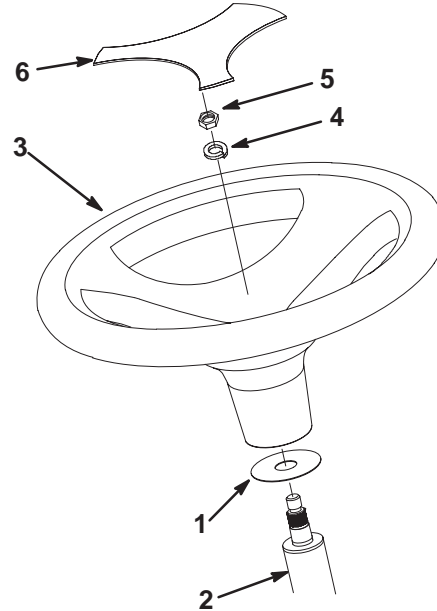

Figure 2
1. Install the boot washer onto the steering shaft (Fig. 2).
2. Remove the plastic trim cover from the steering wheel (Fig. 2)
3. Install the steering wheel onto the shaft, carefully aligning the splines (Fig. 2).
4. Secure the steering wheel to the shaft with a lock washer and nut (Fig. 2). Tighten the retaining nut to 45–50 ft-lbs.